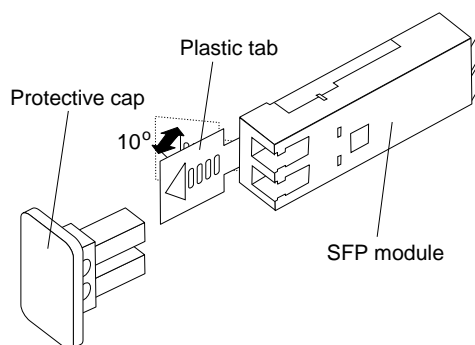

Figure 14. Unlocking the SFP module latch
2. Unlock the SFP module latch by pulling the plastic tab outward 10°, as shown in Figure 14 on page 18.